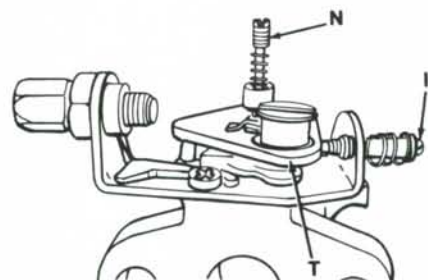

Fig. MI52—View of idle mixture needle (N) used on Walbro WY and WYJ carburetors.
Idle fuel for the carburetor flows up into the throttle barrel where it is fed into the air stream. On some models, the idle fuel flow can be adjusted by turning an idle mixture limiter plate (P—Fig. MI51). Initial setting is in center notch. Rotating the plate clockwise will lean the idle mixture. Inside the limiter plate is an idle mixture needle (N—Fig. MI52) that is preset at the factory. If removed, use the following procedure to determine correct position. Back out needle (N) until unscrewed. Screw in needle 5
turns on Model WY or 15 turns on Model WYJ. Rotate idle mixture plate (P—Fig. MI51) to center notch. Run engine until normal operating temperature is attained. Adjust idle speed screw (I) so trimmer head or blade does not rotate. Rotate idle mixture needle (N—Fig. MI52) and obtain highest rpm (turning needle clockwise leans the mixture), then turn needle 1/4 turn counterclockwise. Readjust idle speed screw. Note that idle mixture plate and needle are available only as an assembly with throttle barrel.